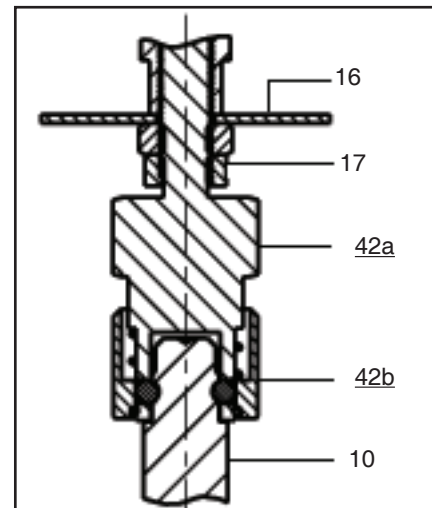

Figure 2: Opt.-68 Quick Disconnect
4. Reference Figures 2 through 6 for identification of item numbers.
5. All item numbers with respect to body assembly (BA) will be in parentheses and not underscored; i.e. (1). All item numbers with respect to the actuator assembly (AA) and positioner will be in parentheses and underscored; i.e. (3). Reference with respect to the positioner is in double parentheses; i.e. ((AP)).
6. **Special care must be exhibited when rotating the stem (3,10) of the valve to not mar that portion of the surface of the stem where it contacts with the seal o-rings (9).** To rotate the stem (3,10), use the jam nuts (17) or grasp stem with soft-jawed pliers. **NOTE:** *When using the jam nuts to rotate the stem, use the upper jam nut to rotate the stem CW, and the lower jam nut to rotate the stem CCW, when viewed from above valve stem.*
NOTE: *For units with Opt-68 Quick Disconnect Stem proceed to Section V.C. See Fig. 2.*